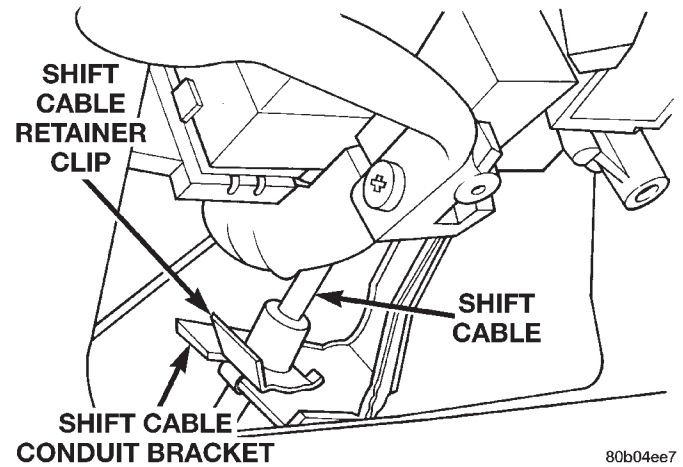

Fig. 18 Shift Cable Retainer Clip Removal
(7) Remove cable retainer clip from shift cable conduit bracket (Fig. 18).